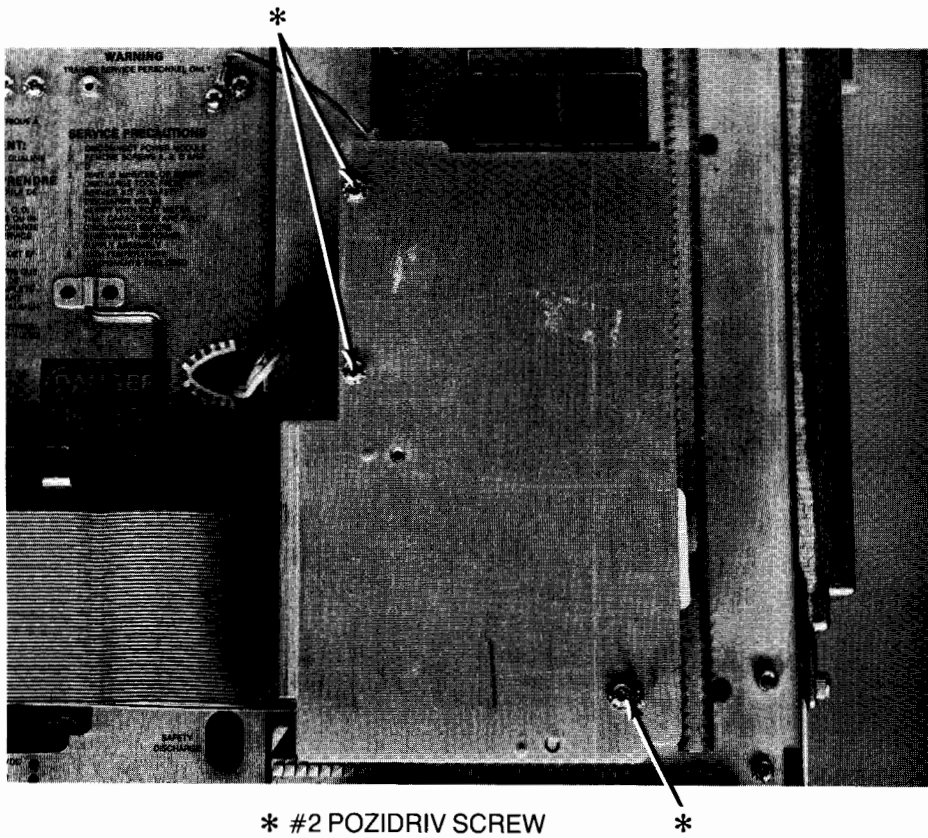

Figure 4-64. Removing Ac Module Cover
6. Remove three #2 Pozidriv screws that attach top cover to ac module (Figure 4-64), and remove cover.
5. Remove three #2 Pozidriv screws that attach top cover to ac module (Figure 4-64), and remove cover.